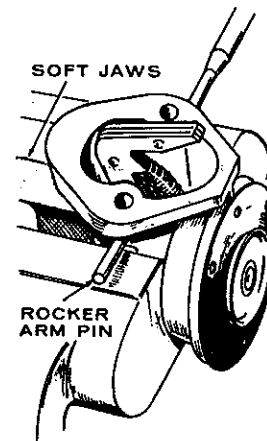

FIGURE 7-3. REMOVING ROCKER ARM PIN
- d. Using a blunt punch, drive rocker arm pin out of pump (Figure 7-3).